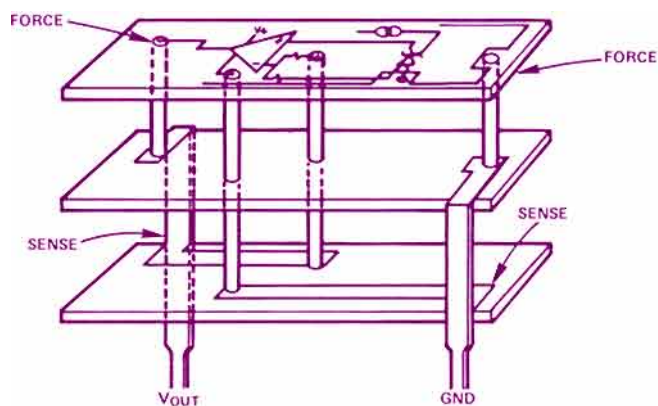

Figure 2. Simplified exploded view of Slam-packaged reference device.
**Electrical Performance** The direct connection to the package leads results in lower series resistance, reducing voltage drops in the package interconnections. Kelvin connections can be established internally, with the Sense lead contacting the pin and the Force lead on a different layer (Figure 2). Internal crosstalk and noise are minimized by the partitioning of the circuit into layers with up to 30-mil separation; this also reduces stray capacitance. Noise can be reduced by isolation of sensitive circuitry on separate layers away from noise sources within the device.